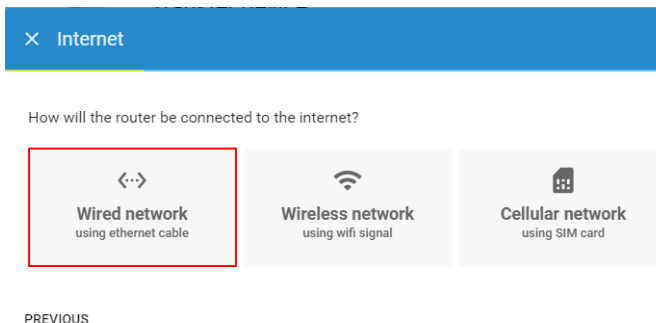

Figure 5.34 Select the WAN interface.
4. Select the type of internet connection: wired using ethernet cable (Figure 5.34).